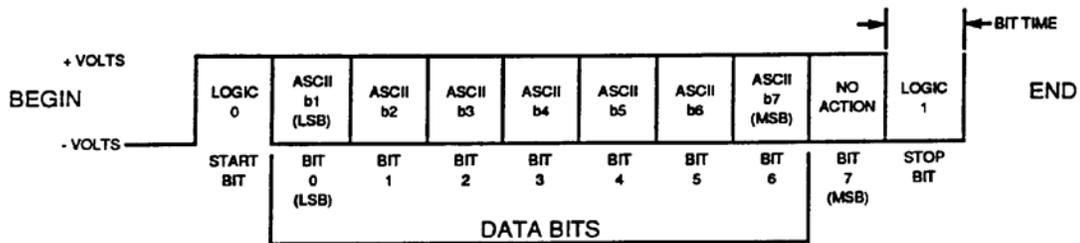

Figure 7-4. RS-232C ASCII Sequence
7.3.1.7. RS-232C Transmission Format. The RS-232-C interface sends/receives ASCII characters in sequence as shown in Figure 7-4 and Table 7-1. Ensure power is off, then see Chapter 2, Table 2-3 for baud rate selection; see Chapter 4, Table 4-2 for 8-bit status byte format. The RS-232-C transmission format control codes are the same as those listed in paragraph 7-2.1 and 7-2.2.